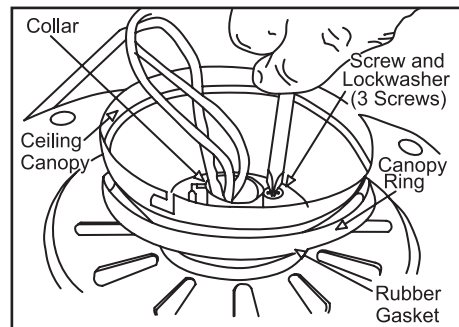

Figure 10
- Place the rubber gasket over the remaining three screws, route the wires exiting the top of the fan motor through the canopy ring (make sure the slot openings are on top), then proceed to place the ceiling canopy over the collar at the top of the motor (Figure 10).
- Align the mounting holes with the holes in the motor and fasten, using the three screws and lock-washers removed in step 4 (Figure 10).